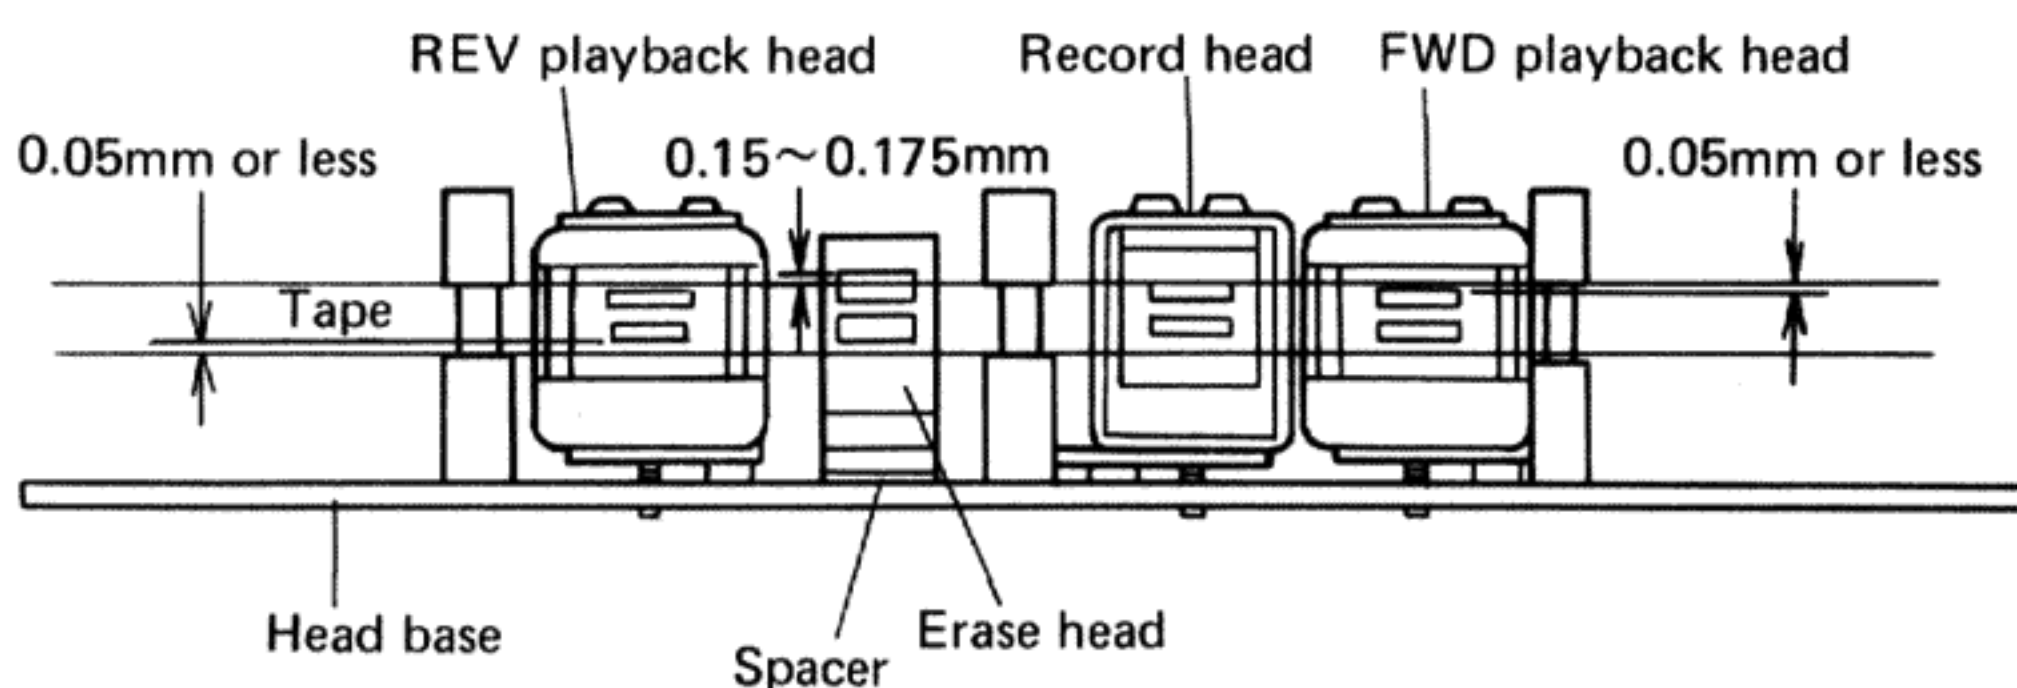
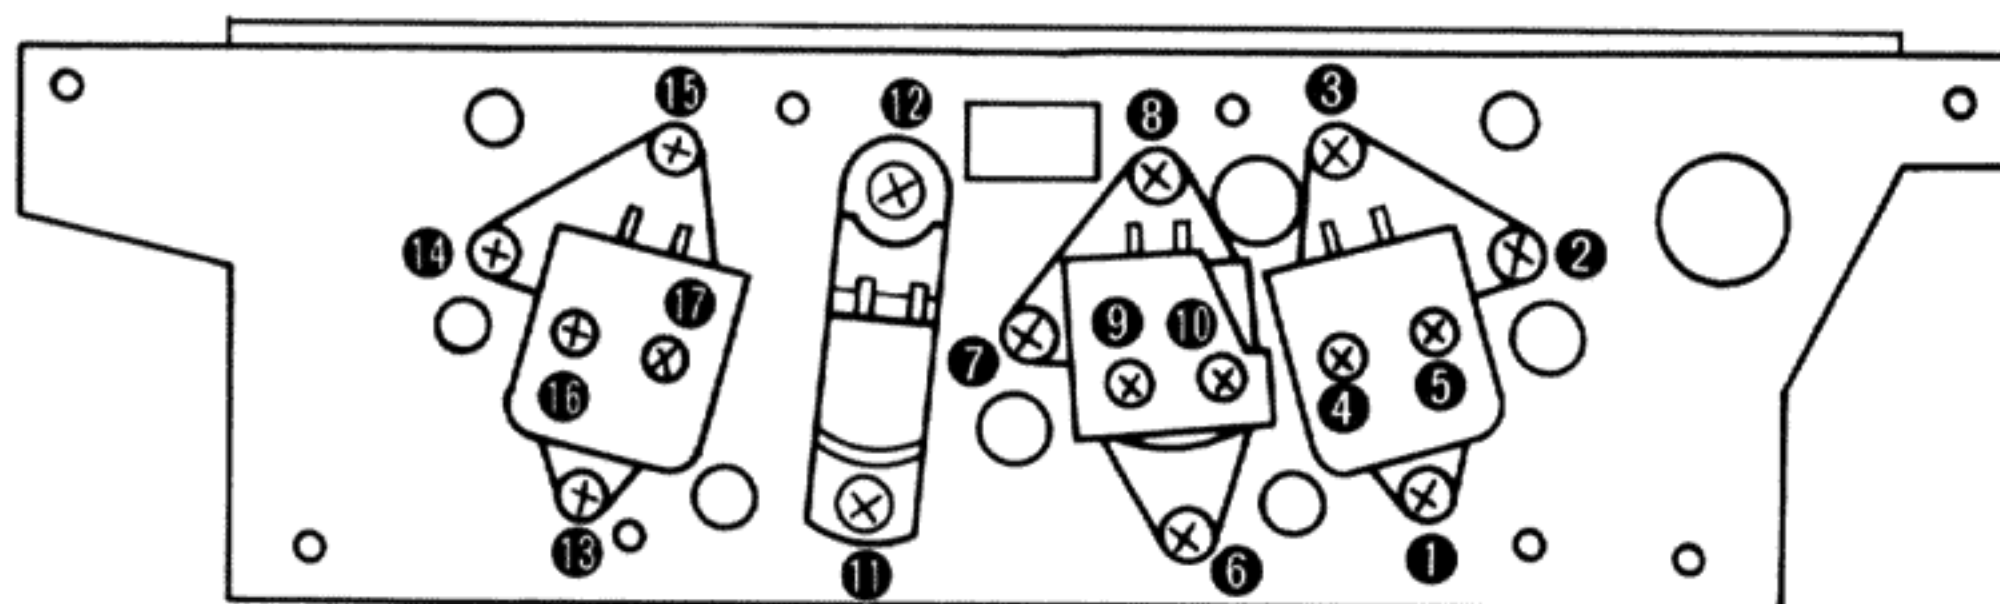
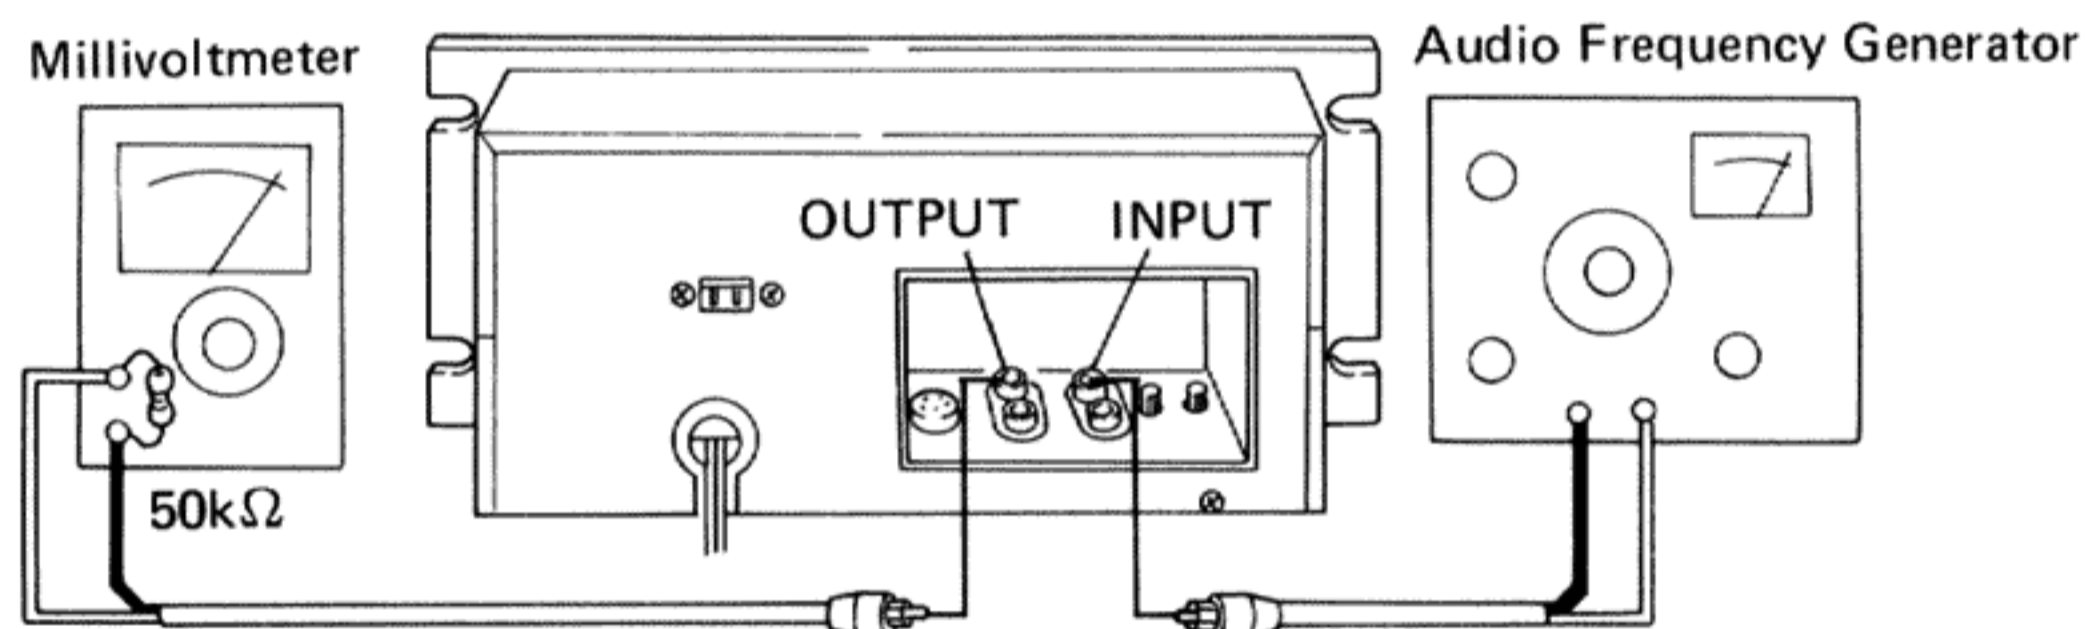

Fig. 30
Fig. 31
Fig. 32
Adjust the screws of Fig. 31 so that the heads and tape become the dimensions shown in Fig. 30 when the tape has been run.
*When the height of the erase head is not the dimension given in Fig. 30, loosen screws 11, 12 and adjust the height by inserting an adjustment spacer under the head.
Adjust the screws of Fig. 31 so that the top and bottom of the front of the head contact the tape uniformly when the tape is running.
Adjust the screws of Fig. 31 so that the head gaps are at right angles to the tape.
- Connect a voltmeter (millivoltmeter) to the LINE OUTPUT terminals (Fig. 32).
1. Adjust screw ② (REV PLAY ... ⑭) of Fig. 31 for maximum output level at both the L and R channels. The difference in the L and R channels output does not require attention unless it is too large.
2. When the output difference is excessive, loosen screws ④, ⑤ (REV PLAY ... ⑯, ⑰) and determine the optimum position while turning the head within the horizontal plane (left, right).
- Simultaneous record/play on test tape STD-502 (Fig. 32).
1. Adjust screws ⑥, ⑦, and ⑧ of Fig. 30 for maximum R channel output level at the voltmeter (millivoltmeter) connected to the LINE OUTPUT terminals.
2. Next, apply a 15kHz signal, set to the simultaneous record/play mode and fine adjust screw ⑦ of Fig. 30 for maximum L and R channel output.
4. When there is a difference in the L and R channel output, loosen screws ⑨, ⑩ of Fig. 30 and determine the optimum position while turning the head in the horizontal plane (left, right).